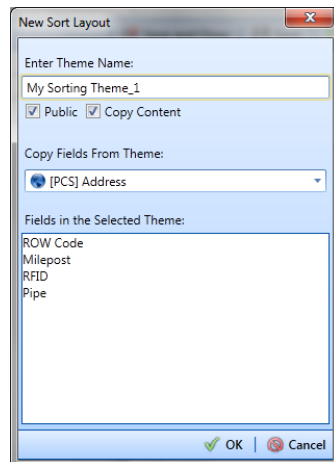

Figure 8-46. New Sort Layout
- 4 Click  **Add** to open the *New Sort Layout* dialog box (Figure 8-46, page 399).